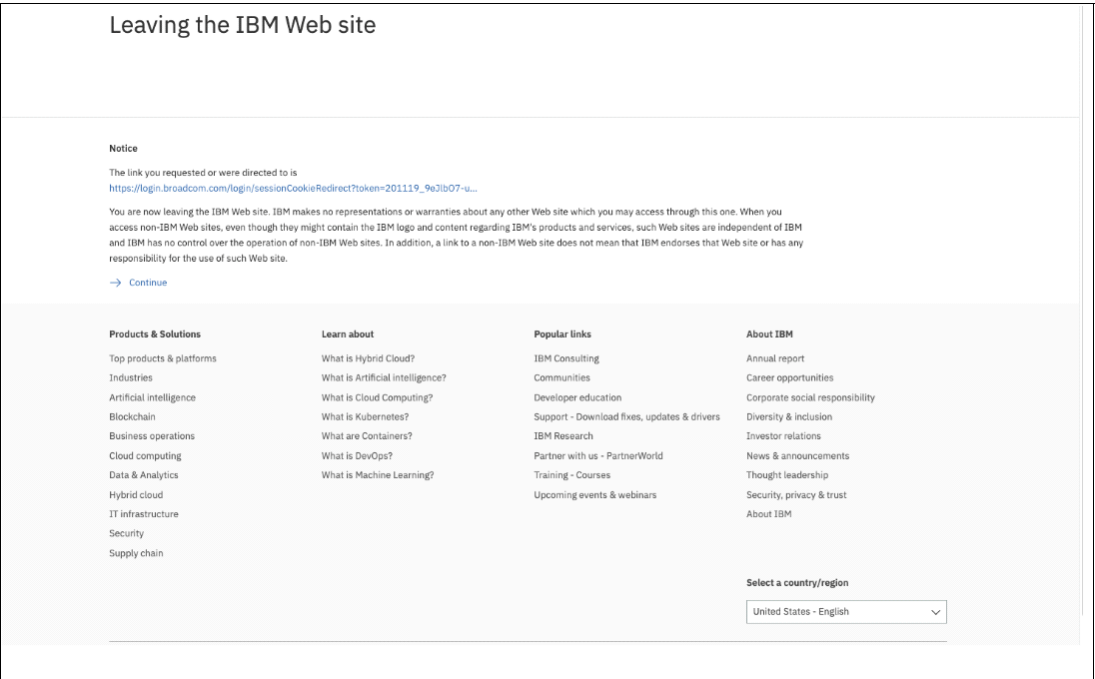

Figure 11-13 Leaving the IBM Web Site window
16.Leave the IBM website by clicking **Continue** (Figure 11-13).